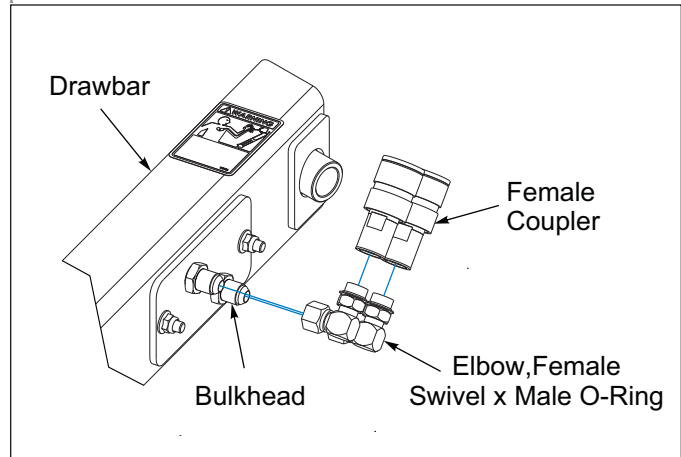

Figure 2-11: Female Coupler Installation
1. Install a Female Swivel x Male O-Ring Elbow Fitting onto each Drawbar Bulkhead. See **Figure 2-11**.